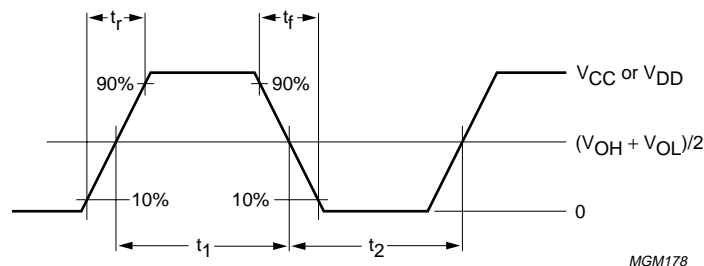

Fig.9 Definition of output transition times.
2. The transition times and duty factor definitions are shown in Fig.9; $\delta = \frac{t_1}{(t_1 + t_2)}$